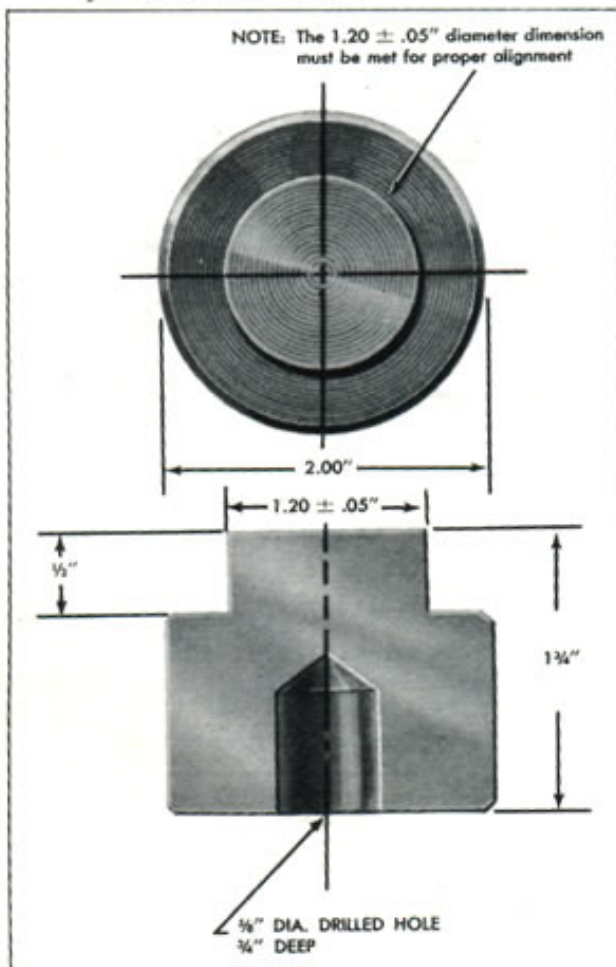

Fig. 2—Hood Lock Alignment Tool
1. Align hood in relation to opening and fenders. An approximate gap of 1/8 of an inch should exist between the hood and adjacent body. Fore and aft adjustment is accomplished using the slotted holes in lower portion of the hinge strap. The upper surface of the hood should, of course, be as nearly flush with adjacent surfaces as possible. The forward portion of the hood is adjusted to a flush position by the addition of shims under the hinges (see Fig. 2 in Manual). The rear portion of the hood is adjusted through the catch bolts. Do not make adjustment of the rear portion of the hood at this point until the lock assemblies have been aligned (see Step 2).
- Fabricate a tool as shown in Figure 2 from a 2" diameter x 1 3/4" long piece of steel, plastic or hard wood.